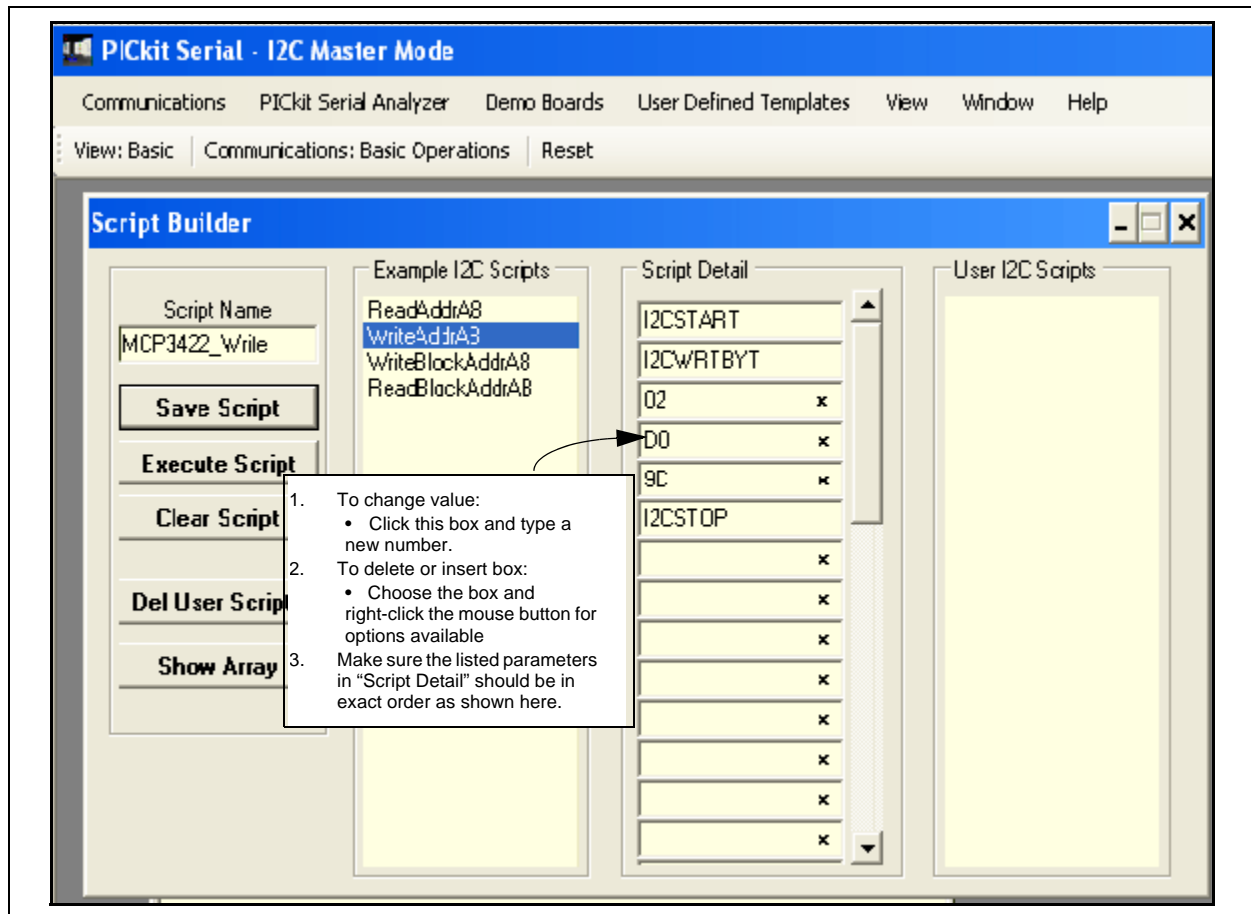

FIGURE 1-10: Modifying Parameters in Script Builder Window.
4. Keep the parameters in the order shown in Figure 1-10.